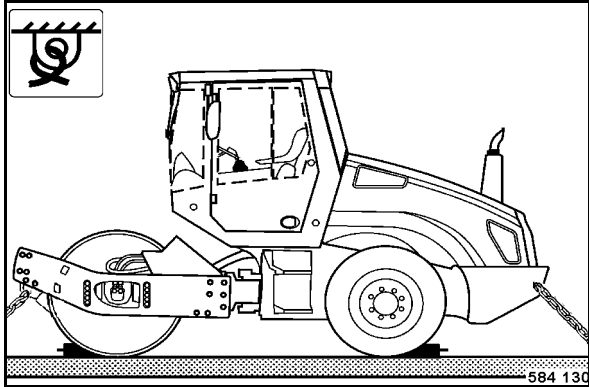

Fig. 116
- Lash the machine on the transport vehicle (Fig. 116), use the four lashing eyes on front and rear frame for this purpose.